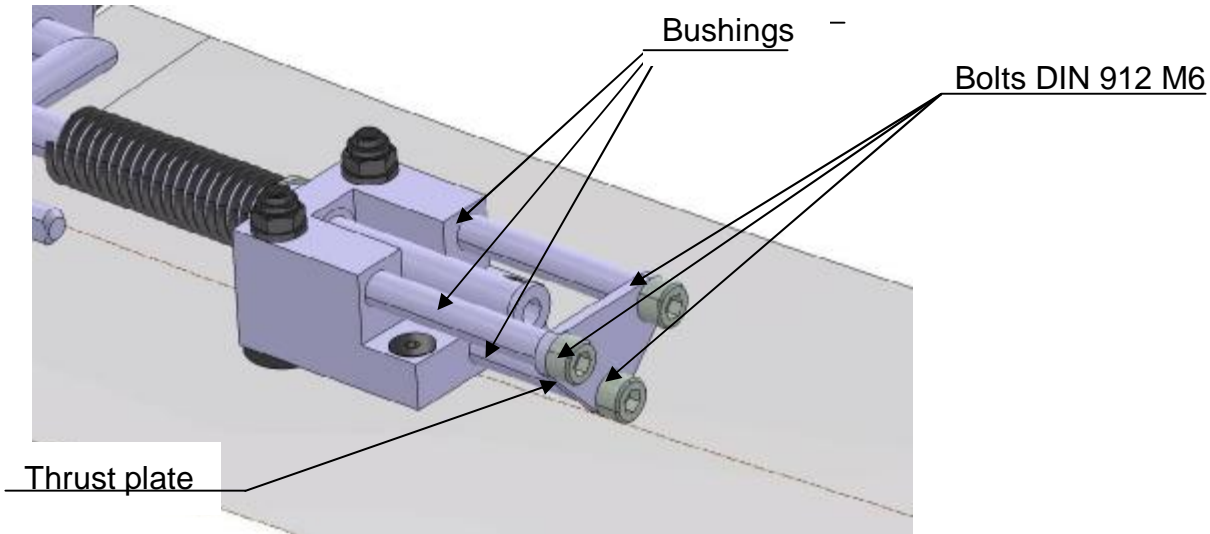

Fig. 10
The old fork stop system, that guides the rear end of the rudder centering fork, must be uninstalled when the rudder stop plates are installed. To do this, remove the three bushings, bolts and thrust plate shown in Fig 10 from the fork mount block. Unscrew three (3) DIN 912 M6 bolts (Fig. 10). Discard these parts.